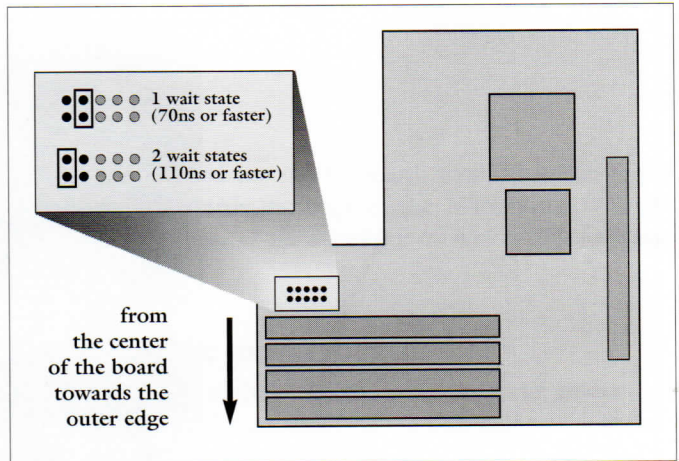

Figure 22 : The wait state jumper
2. Set the wait state jumper to correspond to the type of memory you are installing as shown in Figure 22.